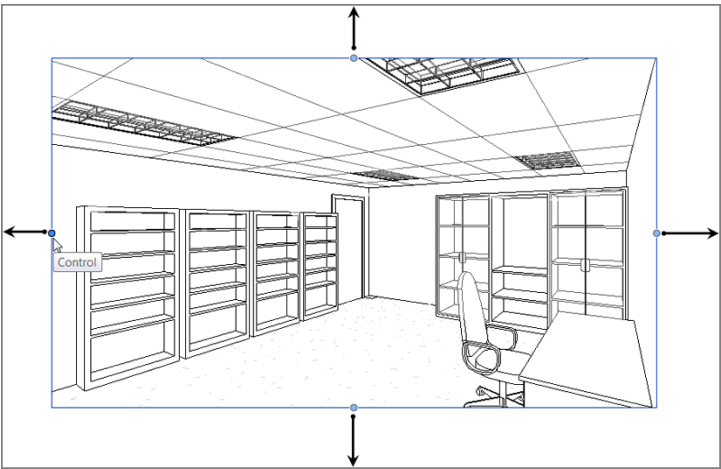

FIGURE 9.55: The perspective of the corner office. If your entertainment unit is backward, you'll have to go back to the plan to rotate it.
- 5. See Figure 9.55 to get an idea of how to stretch the window to show more of the perspective.